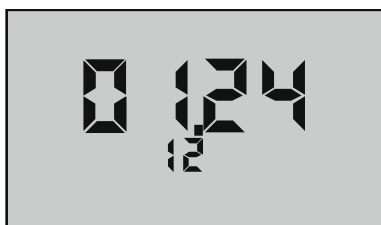

Figure 12
Example shown in Figure 12 is in US format, i.e., mo/dy/yr.
2. Press  repeatedly until the date is displayed (scrolling through stored readings, PC OFF, CLR ALL and time to the date, e.g., “11.18 11” (Figure 12), November 18, 2011).